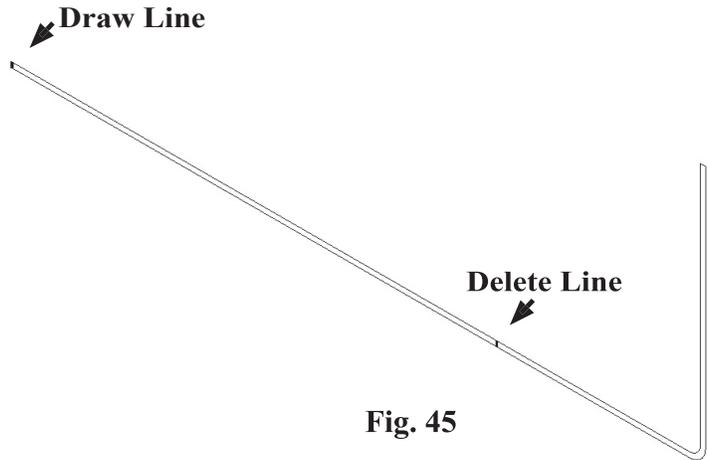

Fig. 45
Step 7. Draw lines between the ends of the extended lines. Press E key to select Endpoints before your click to draw the line. **Remember to press the E key first** then click the end of the line, **Fig. 45**.
Step 8. Delete the short end line of the old L-bracket, **Fig. 45**. Use F5.